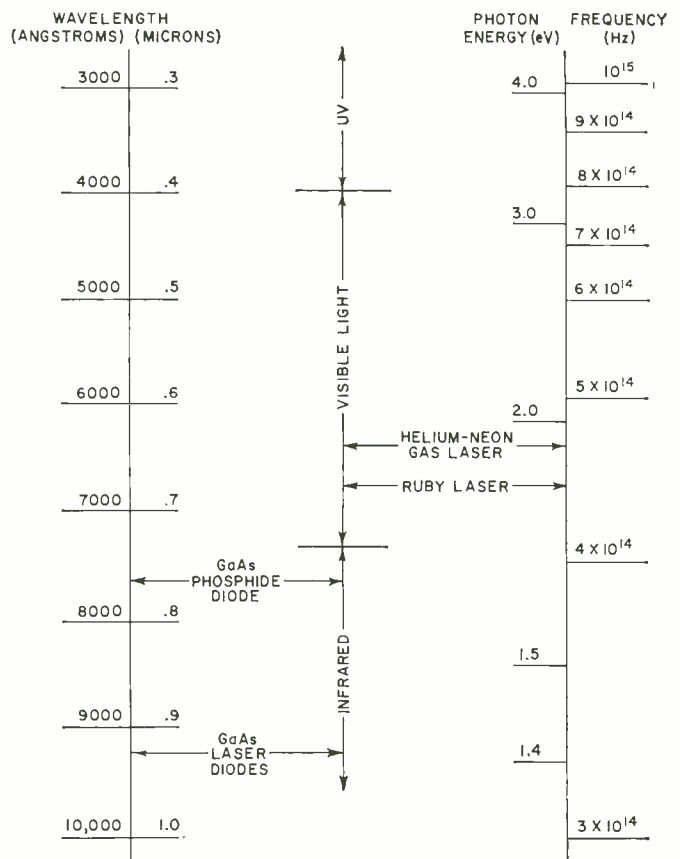

Fig. 3. Chart showing the laser spectrum.
The wavelength of the light emitted from a $p-n$ junction is inversely proportional to the dissipated energy, ΔE . This can be shown by the equation: $\lambda = hc/\Delta E$, where λ is the wavelength of emitted light energy, h is Planck's constant, and c is the speed of light in a vacuum. As an example, zinc-doped gallium arsenide has a characteristic ΔE of 1.37 electron-volts at room temperature. Using the appropriate constants or the chart in Fig. 3, the wavelength of output light energy at the instant of an electron-hole recombination will be about 9050 angstroms which is within the infrared portion of the light spectrum.
Fig. 3. Accepted symbols for JFET's and MOSFET's: (A) symmetrical JFET; (B) nonsymmetrical JFET; (C) and (D) common MOSFET symbols; (E), (F), (G) nonsymmetrical MOSFET's in (G) substrate is tied internally to the source.